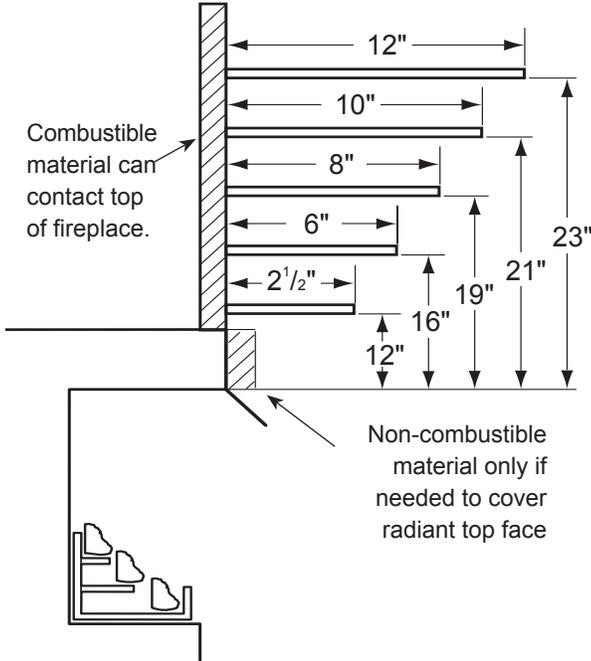
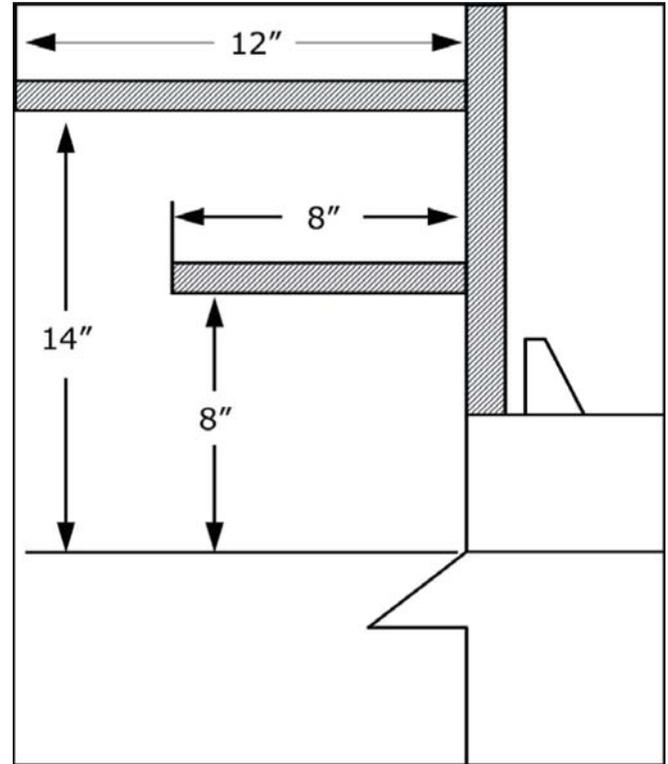

Figure 6A - Mantel Clearances
Figure 6B - Mantel Heights For Wide Profile Canopy
4. **Mantel clearances:** The canopy supplied with the unit must be installed. If a combustible mantel is installed, it must meet the clearance requirements as shown in *Figure 6a*. However, if lower mantel height is desired, refer to page 14 and see *Figure 6b*.